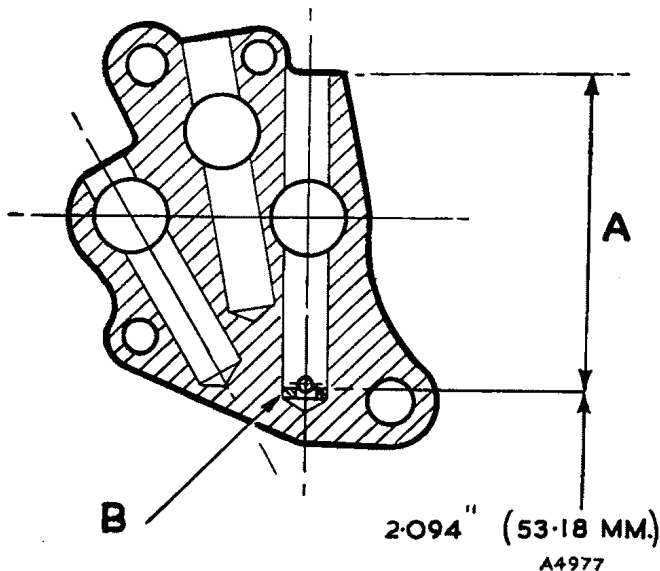

Fig. FF.1
- (1) Follow the gearbox dismantling procedure given in Section F.2 as far as removing the shift shaft locating block from the gearbox casing. Remove the third and fourth gear shifting rod from the locating block, being careful to catch the ball and spring that will be released. The free length of this spring should be 1.187 in. (30.16 mm.) and the poundage should be between 18 and 20 lb. (8.16 and 9.07 kg.) when the spring is compressed to .75 in. (19.05 mm.). As these springs adopt a permanent set in service without necessarily affecting the poundage, it is advisable to ensure that the spring is in order by checking its poundage.
- (2) Check the depth of the bore in the fork rod locating block, using a depth gauge micrometer. This dimension should be 2.094 in. (53.18 mm.) (see [A], Fig. FF.1). On unmodified gearboxes the depth was 2.157 in. (54.77 mm.). In such cases fit a packing washer .063 in. thick (1.59 mm.) in the bottom of the bore.
- (3) Check the depth of the detent notches in the third and fourth speed selector fork rod. Give particular